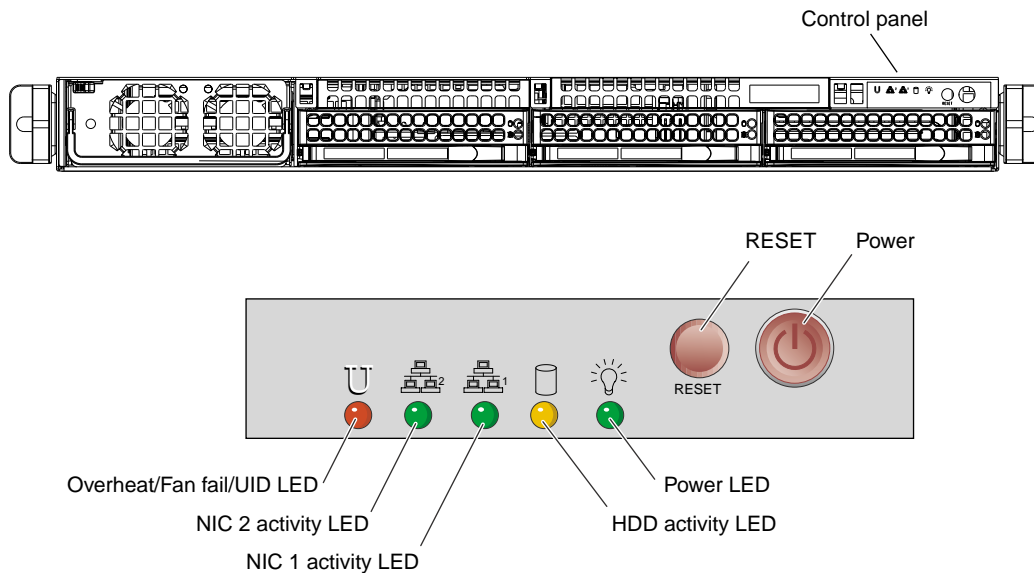

Figure 3-1 Serverboard Control Panel Example
- **Power** - This is the main power button, which is used to apply or turn off the main system power supply. Depressing this button removes the main power but keeps standby power supplied to the serverboard, see Figure 3-1 on page 22.